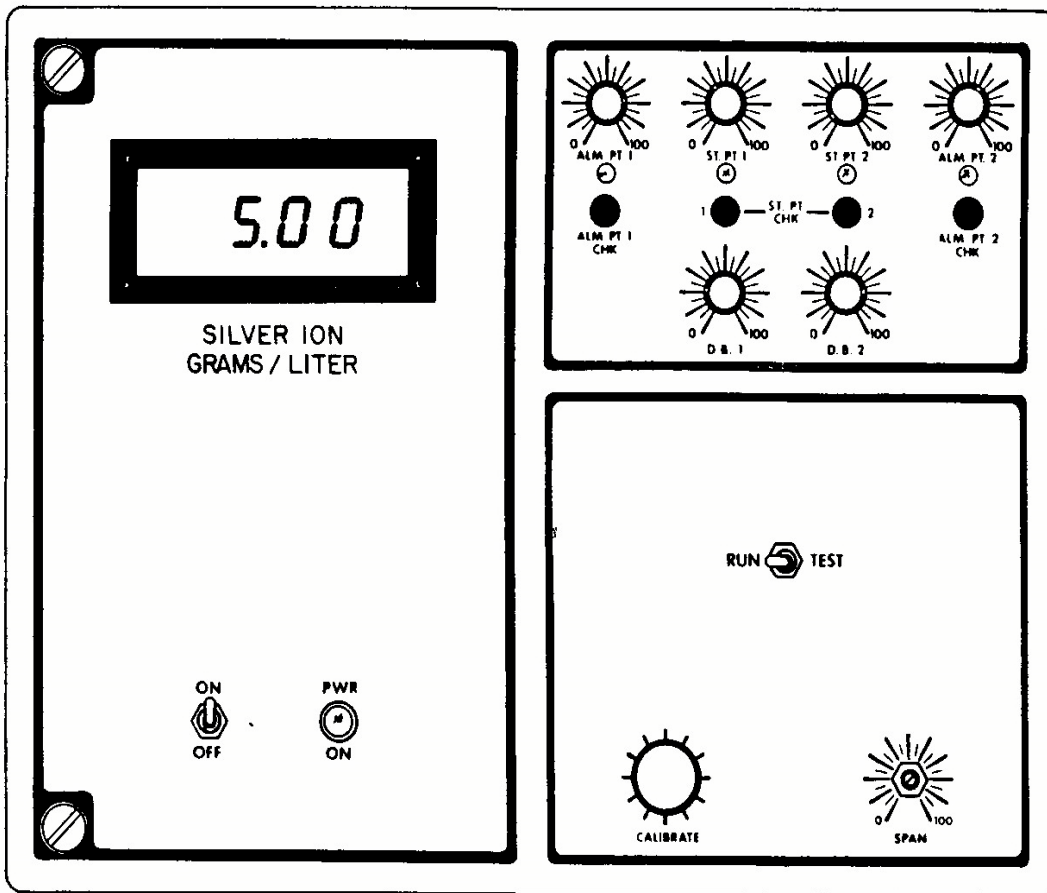

FIGURE 15-1
15.1.1 ON/OFF power switch (on front panel see Figure 15-1)
15.1.2 PWR ON indicator (green, on front panel, see Figure 15-1)
15.1.3 RUN/TEST switch (on front panel, see Figure 15-1)
15.1.4 CALIBRATE control (on front panel, see Figure 15-1)
15.1.5 SPAN control (on front panel, factory-set and locked, see Figure 15-1)
15.1.12 ST.PT.1 (2) indicator (yellow, on front panel, see Figure 15-1)
15.1.13 ST.PT.1 (2) CHK push-button switches (on front panel, see Figure 15-1)
15.1.14 D.B.1 (2) controls (on front panel, see Figure 15-1)
15.1.15 ALM.PT.1 (2) controls (on front panel, see Figure 15-1)
15.1.16 ALM.PT.1 (2) indicators (red, on front panel, see Figure 15-1)
15.1.17 ALM.PT.1 (2) CHK push-button switches (on front panel, see Figure 15-1)